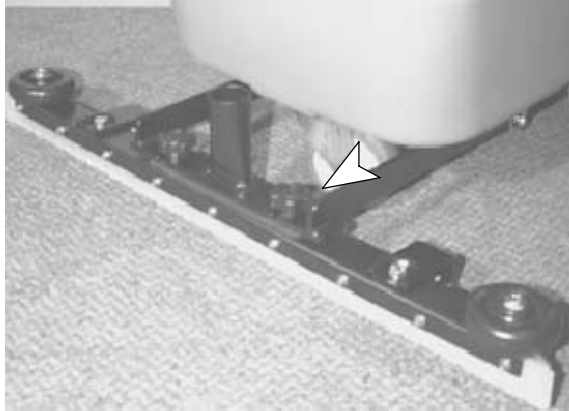

FIG. 6
- Attach squeegee assembly to bracket. Use (2) thumb screws to secure (Figure 6).